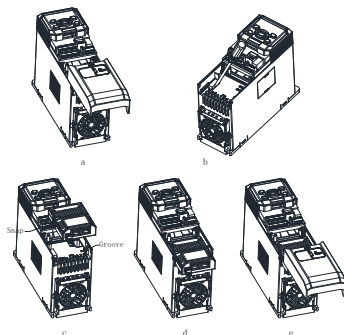

Fig. 1-1 PN card installation steps
- (1) When the drive is powered off, press the granulated part on the middle-upper of the lower cover, slide it down firmly to take down the cover, as shown in Fig. 1-1 a.
- (2) Use a straight screwdriver to pry open the dustproof cap or rubber plug, as shown in Fig. 1-1 b.
- (3) Install the PN option: hold the expansion box (a bus card inside) upwards (indicators up), then align the expansion box with the electrical bus interface of the installation position, and press down horizontally to buckle the spring snap of the expansion box into the groove at the lower part of the drive, as shown in Fig. 1-1 c and d.
- (4) The bus card is successfully installed, as shown in Fig. 1-1 e.